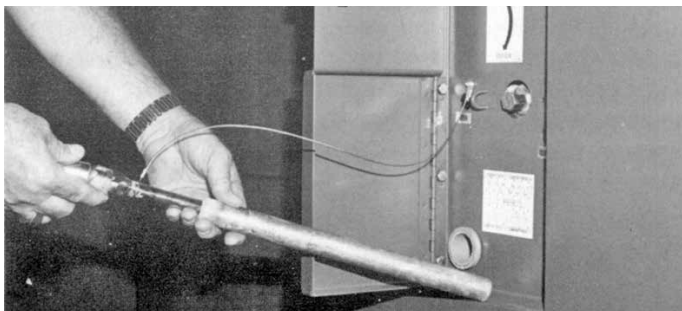

Figure 13. Remove Handle. (chained)
2. Remove switch operating handle from storage tube and place on hex switch-operating shaft (Fig. 13). If provision to padlock switch in open or closed position is provided (K2 option), padlock must be removed before access to hex switch-operating shaft can be accomplished.